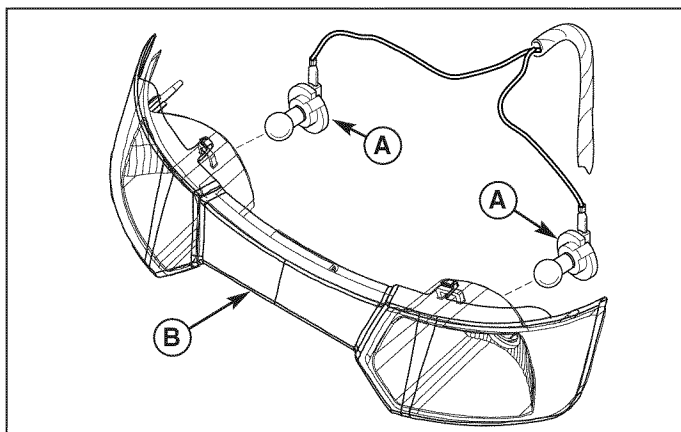

Figure 12. Head Light
2. Remove the socket and bulbs (A, Figure 12) by twisting the socket counterclockwise and pulling it out of the bezel (B). Repeat on other side.